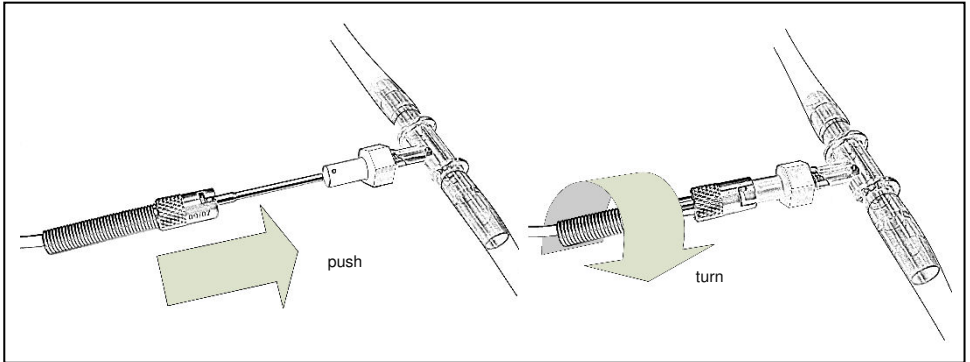
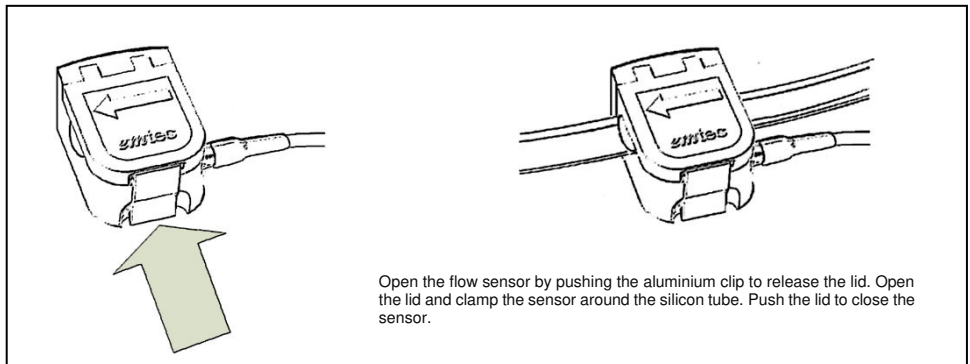

Figure 13: Connecting the temperature sensor
Figure 14: Connecting the flow sensor
- Place the pressure sensor (56) in the holder on the perfusion pole (35).
- Connect temperature sensors according to the color coding; (T1 red, 57) to the arterial line of the disposable set (60) (figure 13).
- Connect T2 (blue) to the venous inlet (54) of the perfusion reservoir.
- Connect the flow sensor (figure 14).